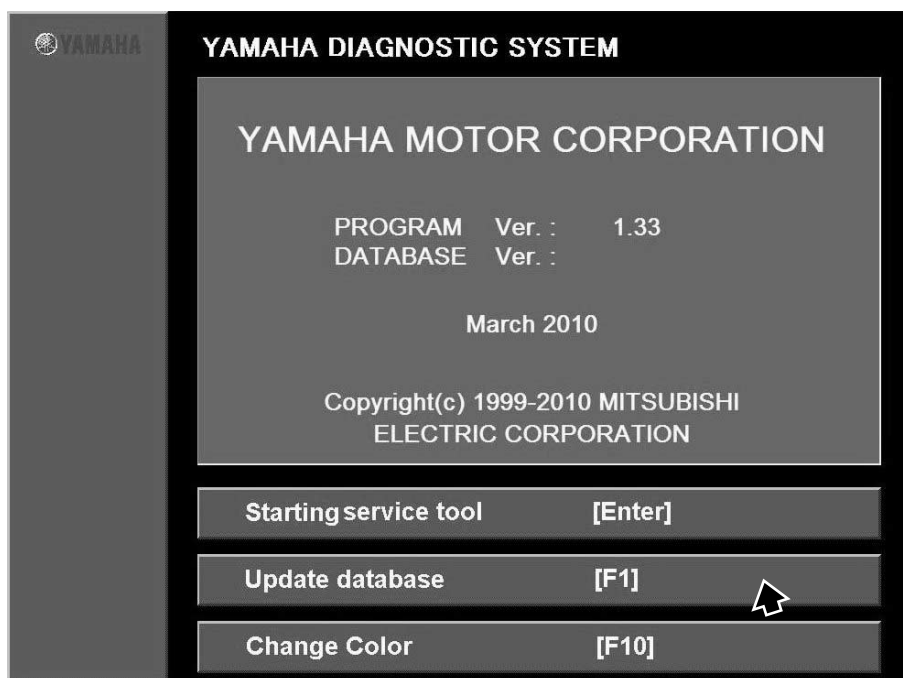

Fig. 11
- 3.** After about three seconds the display will automatically go to the first menu display, or you can click or press any key to go to the first menu. (See fig. 11.)
- To display information, press the Enter key while pressing Shift key in the first menu screen. (See fig. 11.)
- 8.** To quit the Yamaha Diagnostic System from the first menu (See fig. 11.), press the Esc key on your keyboard.